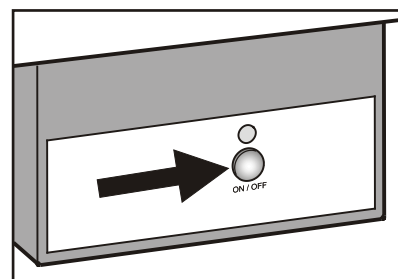

Figure 19
- Press the button on the Ice Maker housing (**Figure 19**) for approx. 3 seconds. The LED above the button starts blinking.
*The Ice Maker can also be turned on and off by pressing the "On/Off" button at the Ice Maker housing for approximately 1 second (**Figure 19**).*
- Pull out the upper freezer drawer completely. Remove the ice cube bin by moving upwards. The position of the ice cube bin is shown in **Figure 19**.